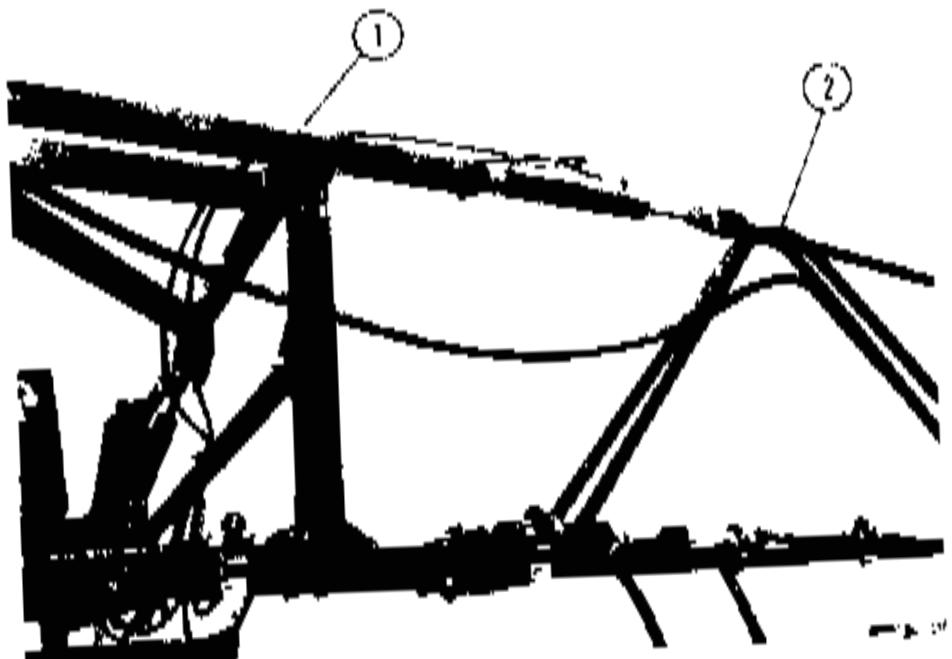

FIGURE 2
5. The transom weldment is the next item to be installed (Item 1; Figure 2).